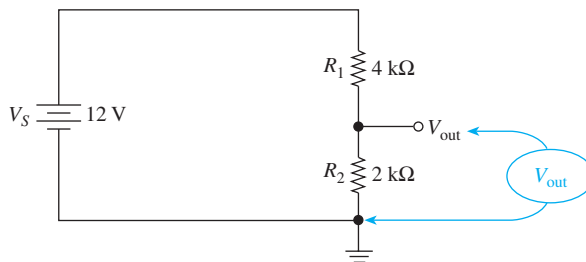

Figure F-4 Circuit used to calculate the output voltage (V_{out}) with respect to ground.
Use the voltage-divider equation to find V_{out} in Figure F-4. (V_{out} is the voltage from the point labeled V_{out} to the ground symbol.)
- F-5.** If the supply voltage in Figure F-4 is increased to 18 V, V_{out} becomes _____ (6 V/12 V).
F-3. Refer to Figure F-4 to solve for the unknown quantities in the following table.
F-4. Refer to the original Figure F-4 to solve for V_{out} given the following open- and short-circuit conditions.